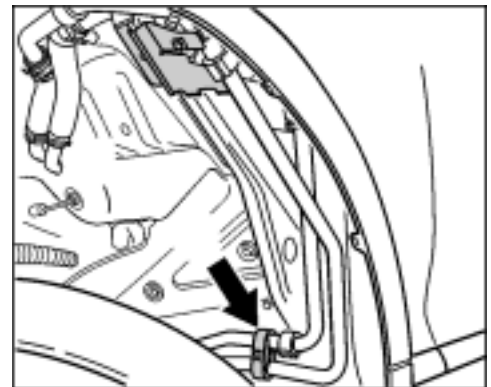

Figure 1
- 4 Remove lower holder (⇒ *Figure 1 - , Arrow-*).